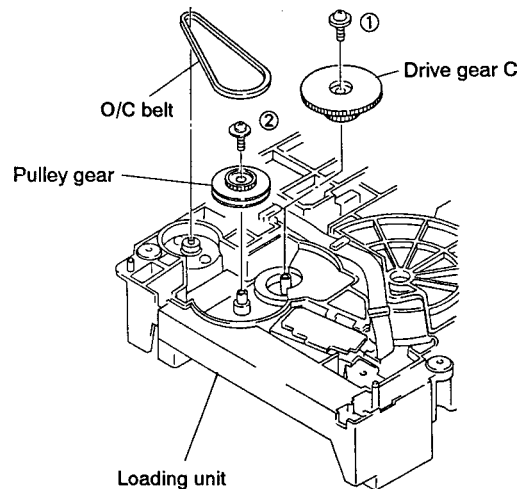

Fig. 2-15
2.12 REMOVAL OF DRIVE GEAR C, PULLEY GEAR, AND O/C BELT (Refer to Fig 2-15.)